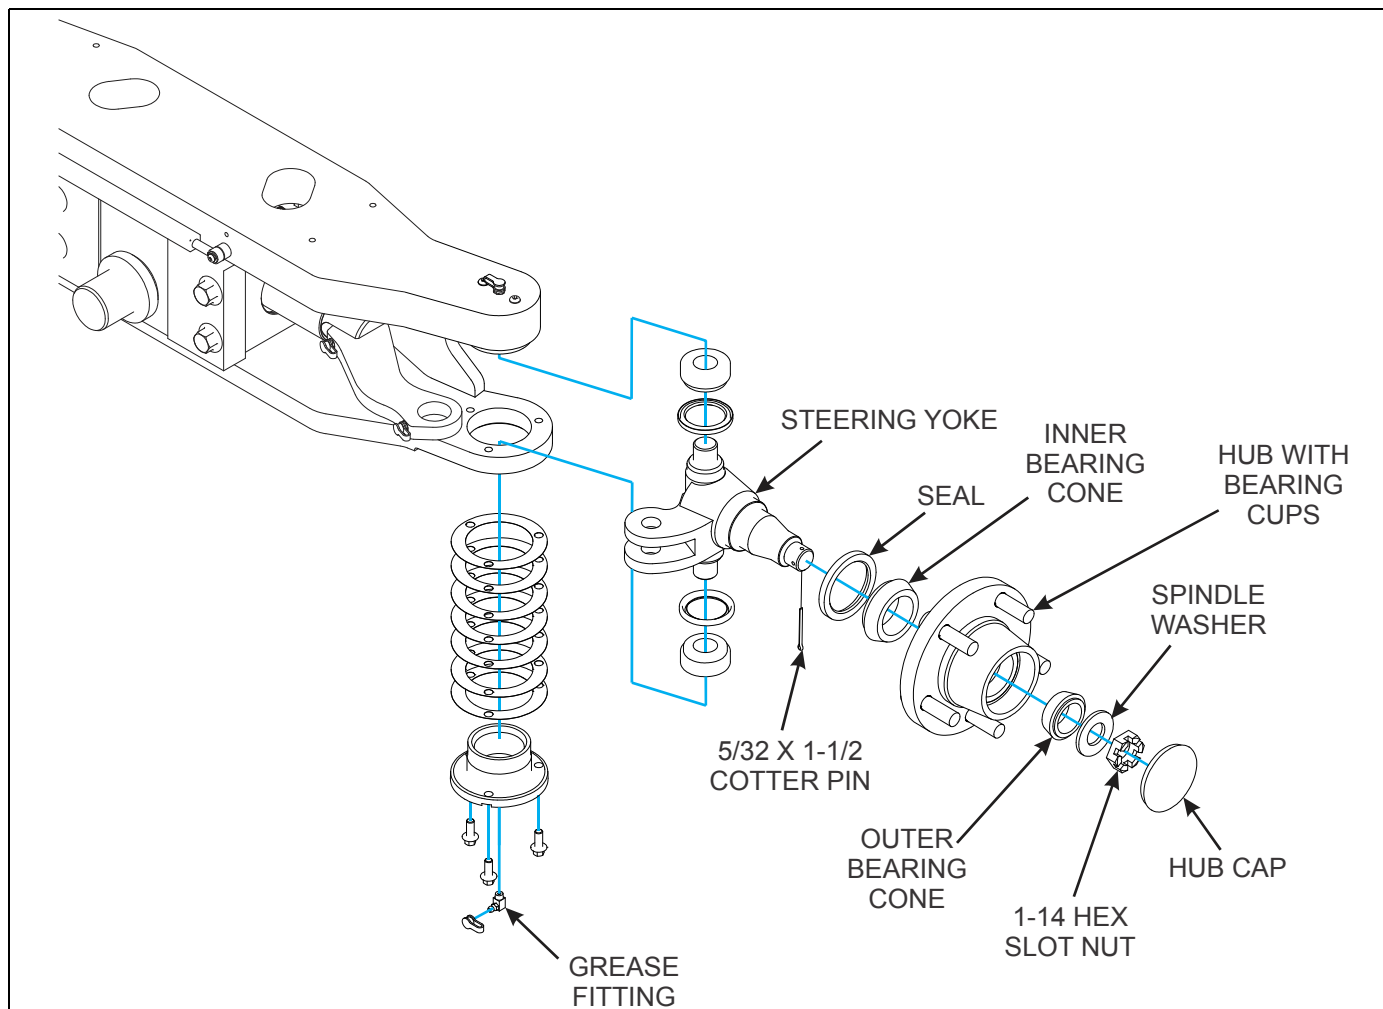

Figure 3-23: Wheel Bearing Assembly
3. Remove hub cap, 5/32 x 1-1/2 cotter pin, 1-14 hex slot nut, spindle washer, and outer bearing cone. See Figure 3-23 for reference.
1. If bearing cups are replaced, clean hub and press new bearing cups into hub (See Figure 3-23).